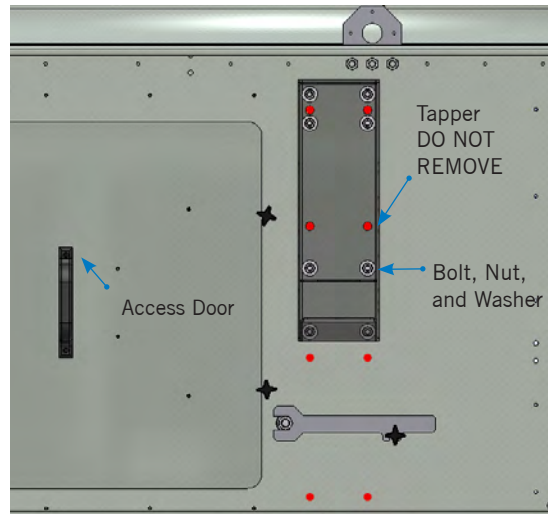

Figure 29b. Davit Support Detail
1. Verify the davit support is factory installed next to the access door. If not installed, remove the bolts next to the access door (refer to **Figure 29b**). **DO NOT REMOVE TAPPERS**. Secure the davit support by re-installing the bolts.